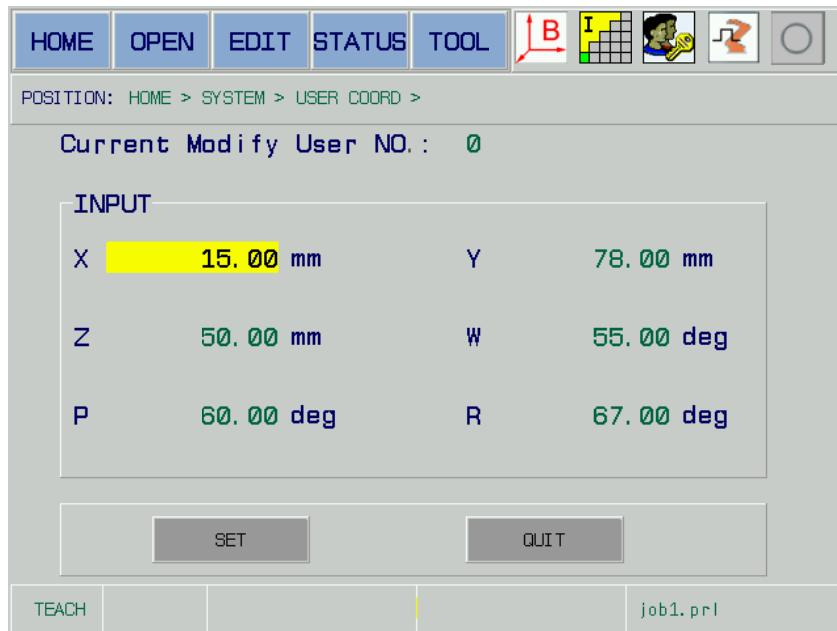

Fig. 8-6
**Step three:** Select the completion after the settings are performed. In this case, the user coordinate system setting is enabled. Refer to the Fig. 8-6.